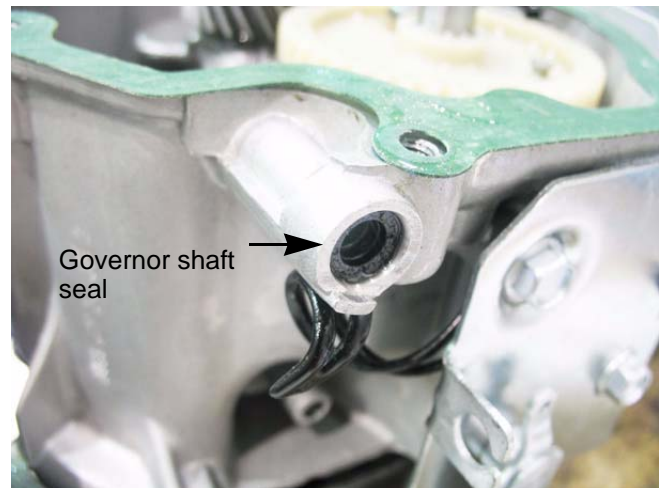

Figure 4.56
- Remove the governor shaft seal. See Figure 4.56.